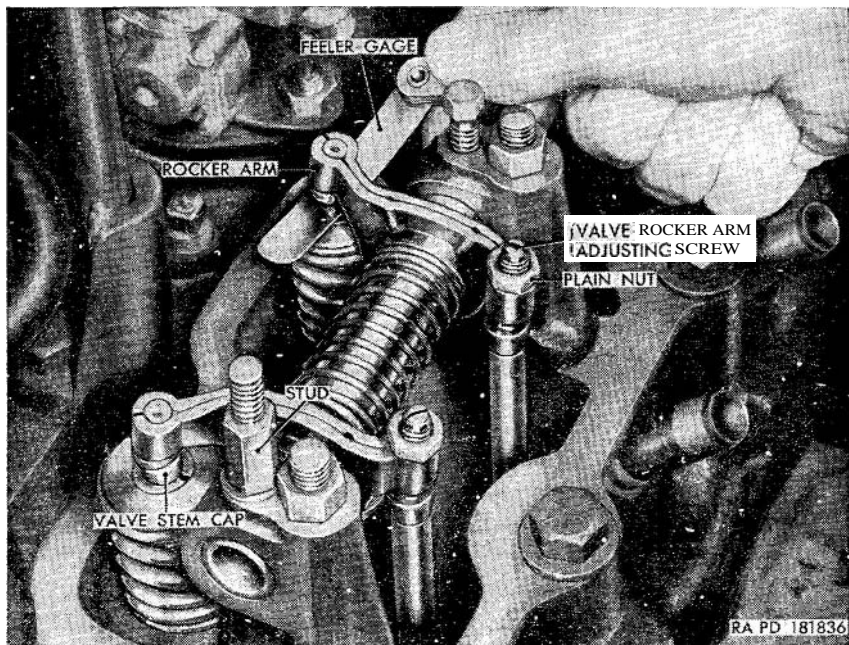

Figure 43. Checking intake valve clearance.
one cylinder to the other at the cylinder head gasket. The leakage may be caused by improperly tightened cylinder head screws or a faulty cylinder head gasket. Tighten the cylinder head screws to a torque of 60-65 foot-pounds in the sequence shown in figure 43. Check cylinder compression again. If compression is still low on adjacent cylinders, there may be leakage because of a faulty cylinder head gasket. Before replacing the gasket (par. 111), check the manifold vacuum (par. 107) to see if there is leakage at the gasket.
- (6) Unscrew the rocker arm cover elbow from the top of the cover.
- (7) Do not remove the two studs (fig. 43) from the two end rocker arm shaft brackets unless they are damaged. To remove the studs, unscrew them from the tops of the brackets and remove the internal-teeth lock washer from each stud.
- (1) If the studs (fig. 43) securing the rocker arm cover assembly were removed, install them. Using one  $\frac{5}{16}$ -inch internal-
- (1) Remove the rocker arm cover assembly and gasket (par. 108a(1) through (5) ).
- (2) Using a suitable socket wrench and extensions, turn the engine crankshaft, as necessary, to bring each intake valve in turn to the fully closed position. Check the valve clearance by inserting a feeler gage between the valve stem cap and the rocker arm (fig. 43) . The valve clearance should be 0.018 inch.